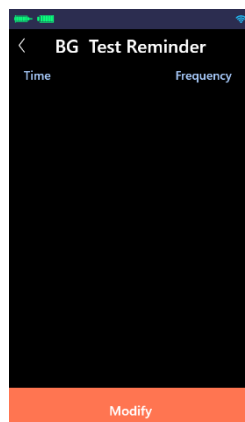

Figure 13.1
(1) Click “BG Test Reminder” to open the test reminder interface, and then click “Modify” (as shown in Figure 13.1).